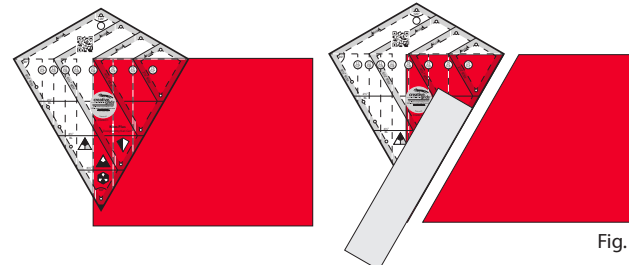

Fig. 7
**Please note:** When cutting the Side Triangles for an 8½" kite, the ruler does not extend the entire length. Simply line up as shown, adding another straight edge to the angle to complete the cut. Fig. 7